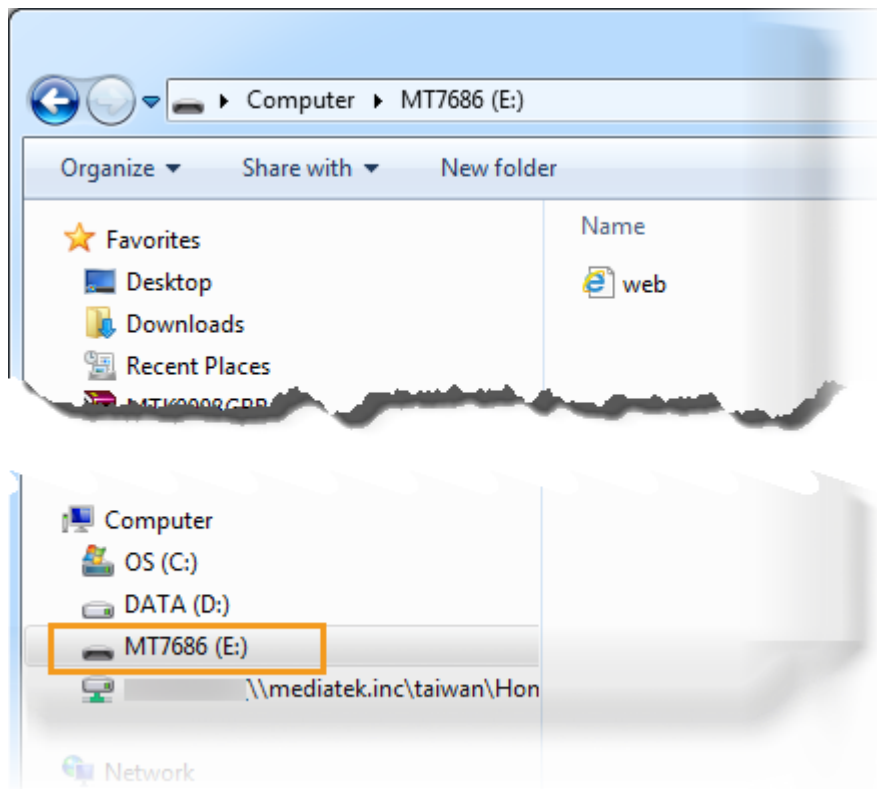

Figure 4. New removable storage detected
The development board should now be connected to the PC, as shown in Figure 4.
- 3) Navigate to **Computer** on your PC to check if a new mass storage named **MT7686** is available under **Removable Disk**, as shown in Figure 4.